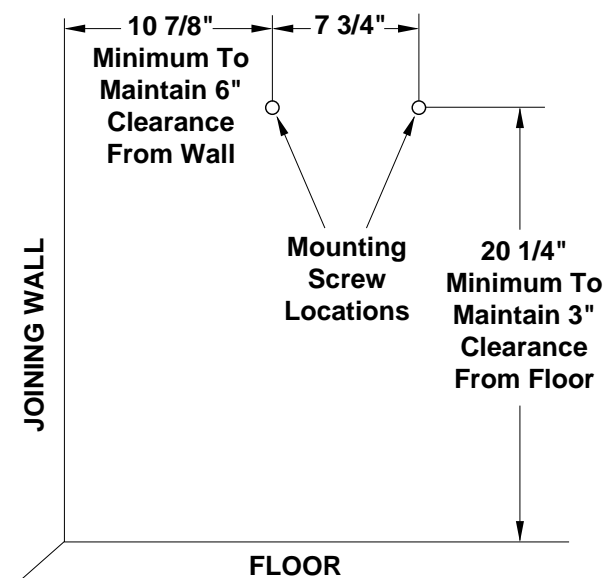

Figure 3 - Mounting Screw Locations
Maintain minimum clearances shown in Figure 3. If you can, provide greater clearances from floor and joining wall.
2. Mark two mounting screw locations on wall (see Figure 3).